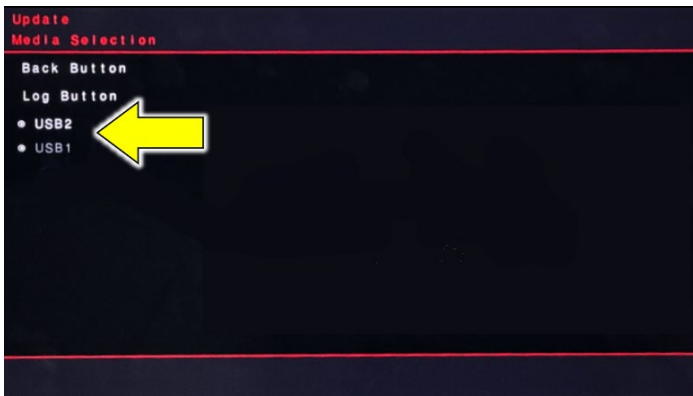

Figure 7: USB port selection
- Select “USB 1” or “USB 2”, depending on into which port the USB stick was previously inserted (see figure 7).